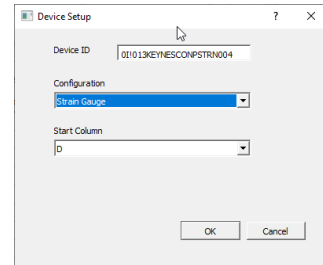

Figure 15
The NP-1-STRAIN-24-SD85 interface is factory preset to operate with 3 K Ohm thermistor. The following command can be used to test the NP-1-STRAIN-24-SD85 sensor. See Figure 15.
Select the 'Device **Setup**' tab to select the card type. The Window shown in Figure 15 will appear.
1. Assign the start location for the measurements in the results file. Figure 15 shows Cell D as the first location for the storage of values in the text results file.